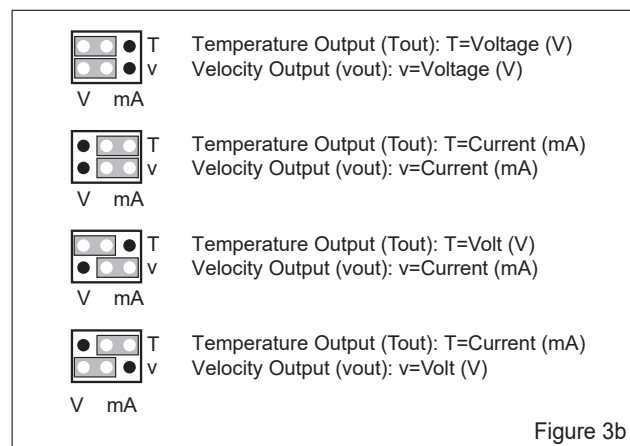

Figure 3b
- 1) Select the output mode, Current (4-20 mA) or Voltage (0-10V), by installing jumpers as shown in Figure 3b. Both outputs, Temperature (T) and Velocity (v), are configured separately.